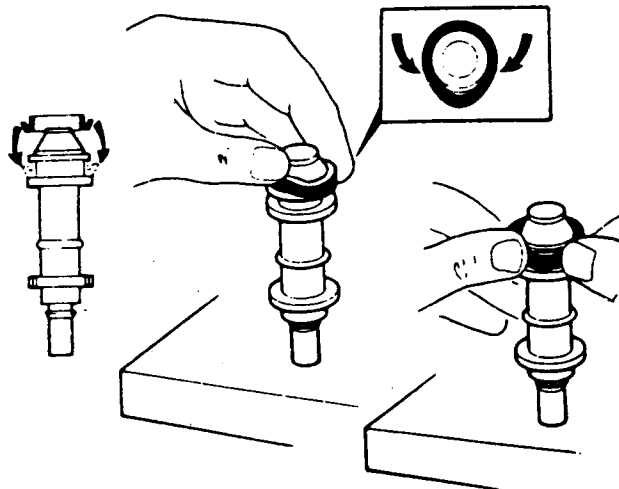

Fig K1.25
- (1) Refer to Fig K1.25. Fit a new seal (1) into the groove in the secondary plunger, as follows: Squeeze the seal into an ellipse then press the raised point of the seal over the flange.